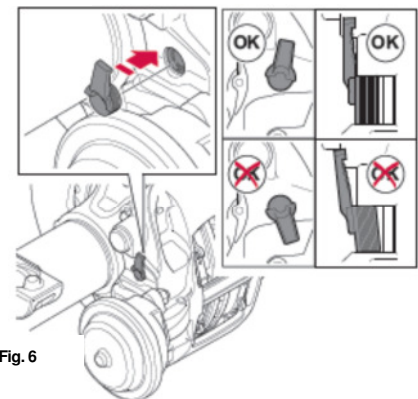

Fig. 6
10. Afterwards close the opening with the yellow cap. Pay close attention to ensuring that the yellow cap is in the correct position and to thus ensure that the sealing function of the cap is assured. See ⇒fig. 6